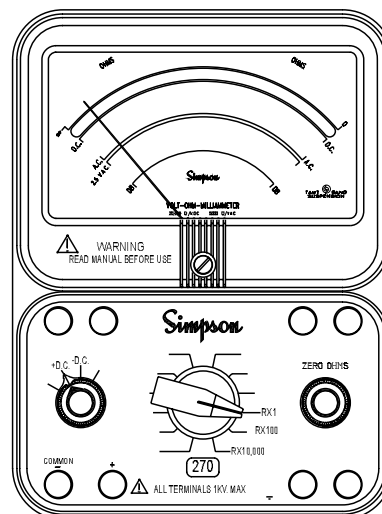

Figure 4-8. Jacks and Switch Positions for Measuring Resistance
- Disconnect the shunted component from the circuit before measuring its resistance. Then set the range switch to one of the resistance range positions as follows (Figure 4-8):